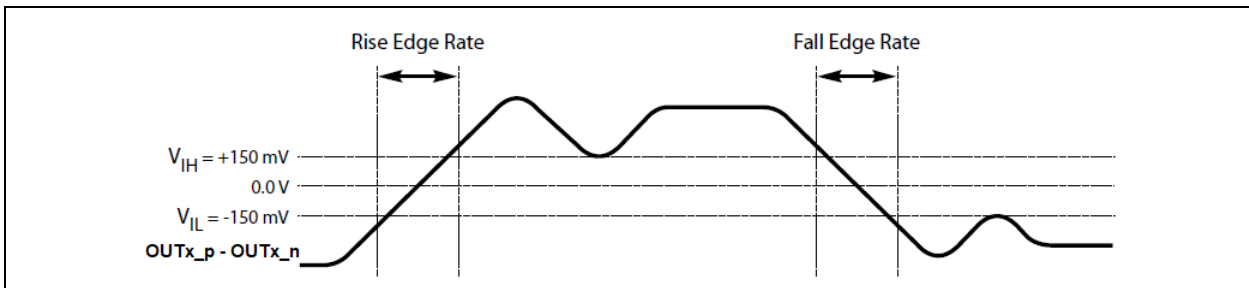

FIGURE 1-5: Differential Measurement Points for Rise and Fall Time.
- 2:** Measured from -150 mV to $+150$ mV on the differential waveform (derived from $OUTx_p$ to $OUTx_n$). The signal must be monotonic through the measurement region for rise and fall time. The 300 mV measurement window is centered on the differential zero crossing. See Figure 1-5.